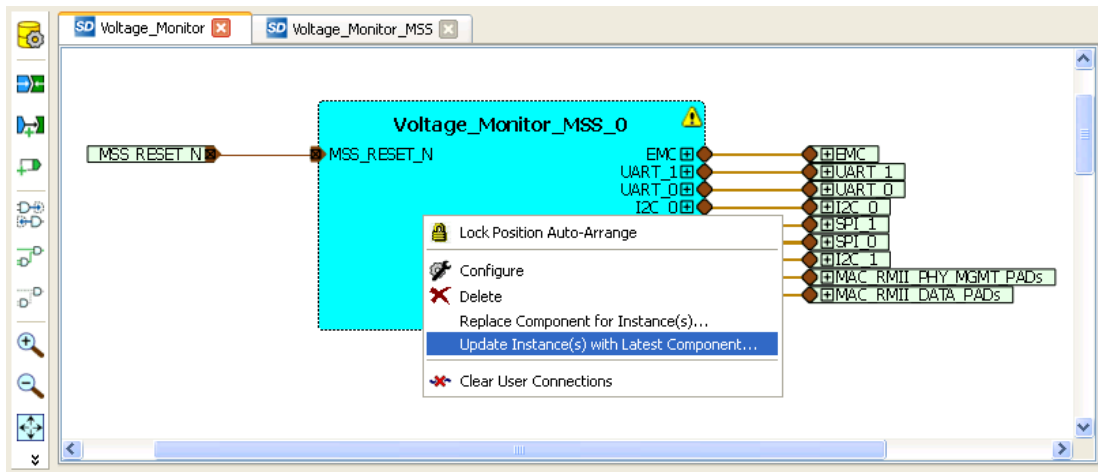

Figure 19 · Updating the MSS
1. Right-click on **Voltage_Monitor_MSS_0** on the **Voltage_Monitor_MSS** tab and select **Update Instance(s) with Latest Component...** as shown in Figure 19 . .